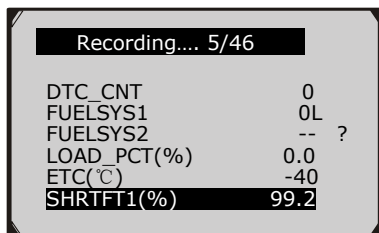

Figure 5.26
- 5) Wait for DTC to trigger recording or press **OK** to start recording. (Figure 5.26)
- 7) Wait for DTC to trigger recording or press **OK** to start recording. (Figure 5.26)